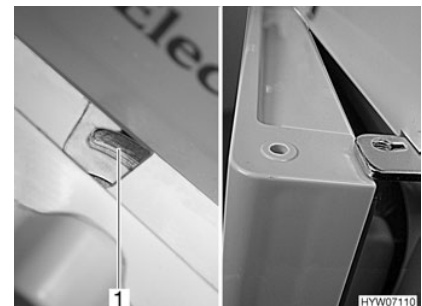

Fig. 78 Refrigerator door/freezer compartment door in ventilation position (Dometic 7 series with separate freezer compartment)
- Push the lock completely to the right. The door latch (Fig. 78,1) keeps the refrigerator door/freezer compartment door in a fixed position. The refrigerator door/freezer compartment door will then stay slightly open (Fig. 78).